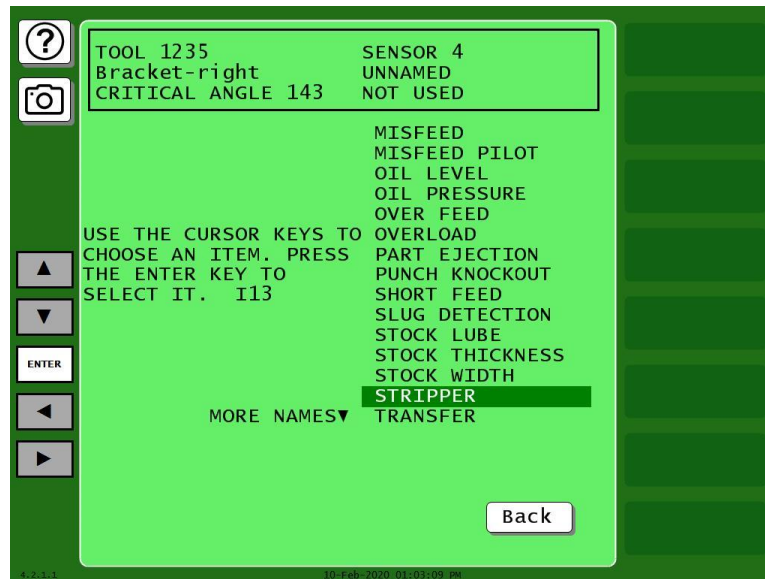

Figure 5-35. Sensor Names Screen with Stripper Function Highlighted
2. Select the sensor number that you want to program. The Sensor Names screen displays, Figure 5-35.
3. Select a function for the sensor. (“Stripper” is used as an example in Figure 5-35.) The Sensor Type screen displays, Figure 5-36.